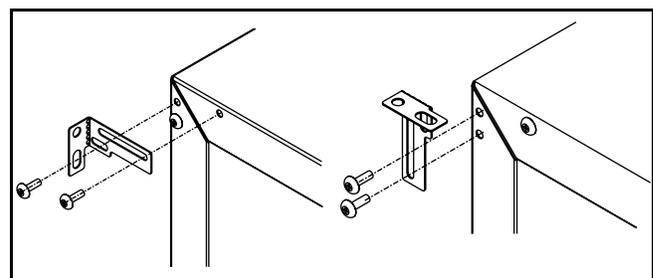

Figure 30
- Remove the two screws from the opposite side of the hinge assembly using a Phillips screwdriver (**Figure 30**).